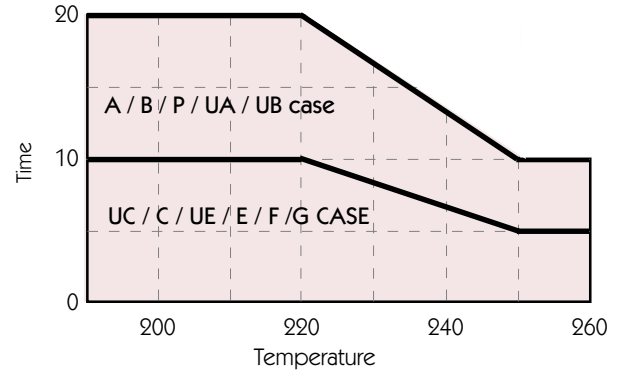

Fig. 13. Flow soldering permitted temperature/time range
- Permitted temperature and time range: See Fig. 13